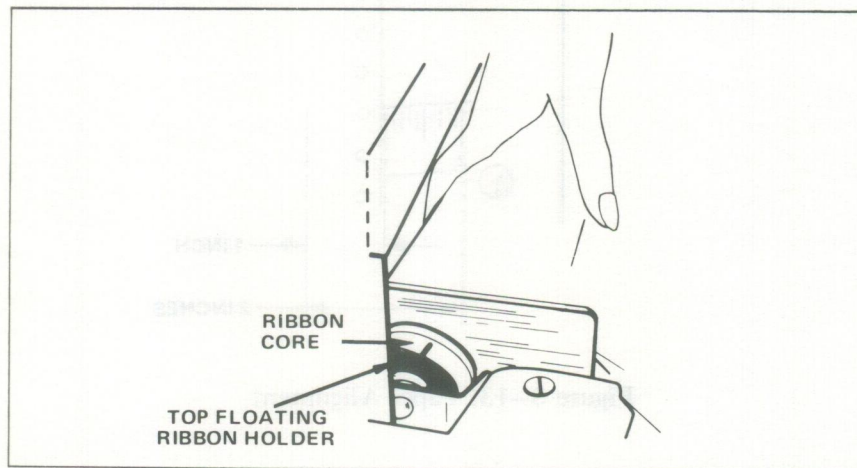

Figure 8-15. Upper Left Ribbon Core Installation
4. Place the left end of the fully wound ribbon core over the top floating ribbon holder (Figure 8-15).